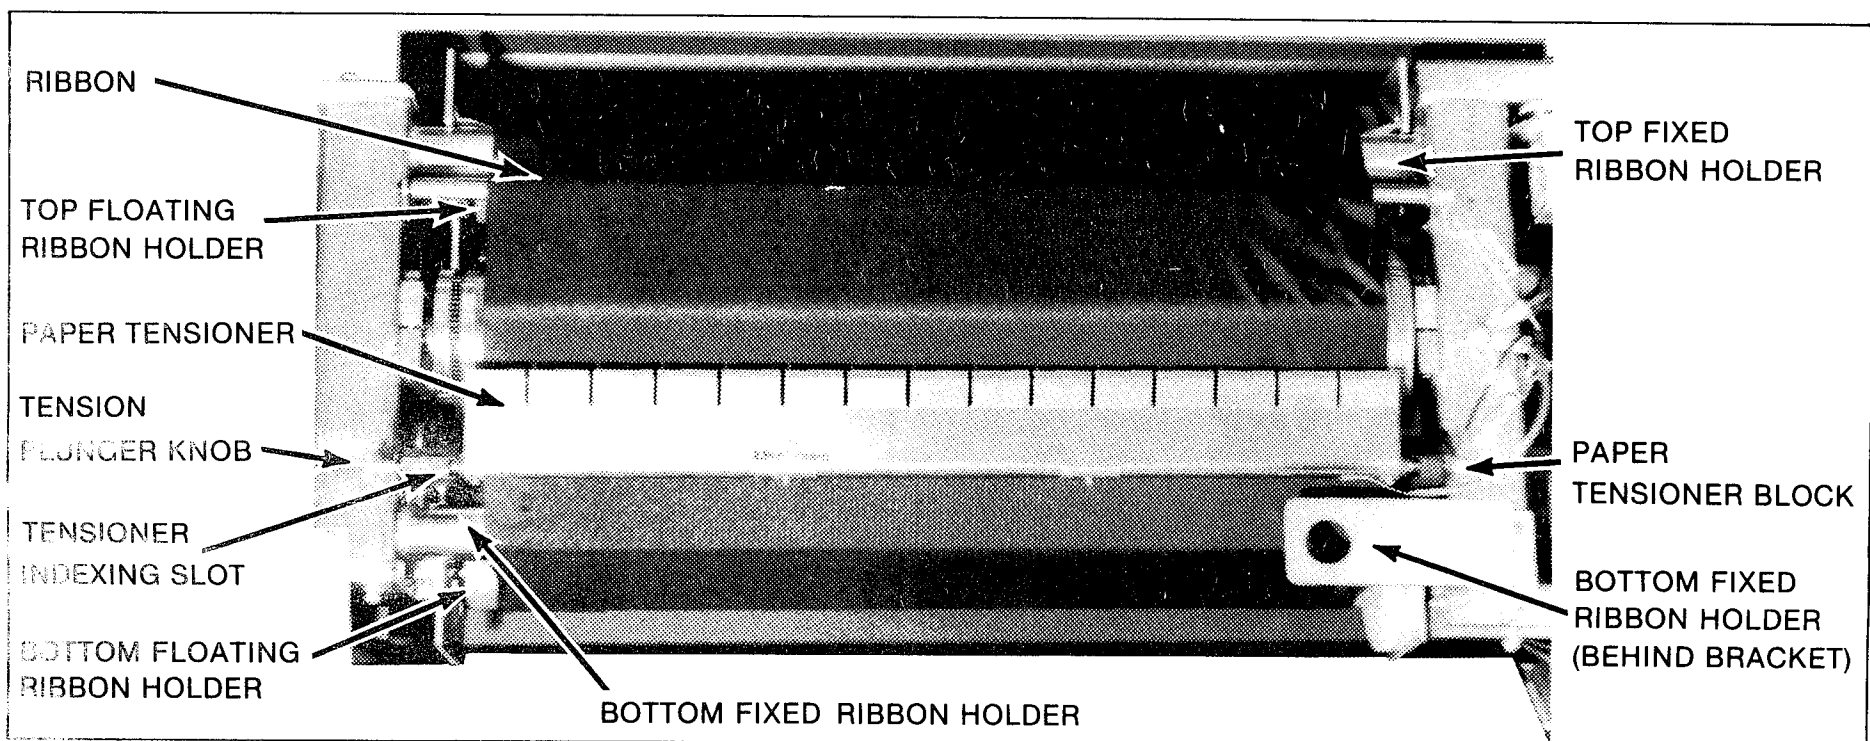

Figure 8. Ribbon and Tensioner Installed
- Install paper tensioner by inserting the paper tensioner block into position and pushing the tensioner against tensioner knob indexing slot while pulling knob to allow slot engagement. Once engaged, release knob. Figure 8 shows ribbon and tensioner completely installed.